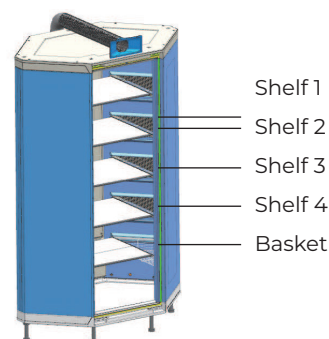

Figure 8-18
1. Take out the shelves and baskets in the package. Pay attention to the direction of the baskets and shelves, as shown in (Figure 8-18).
3. Take out slide stops (silicone cushions) for glass shelf (3-5), on both sides of the baskets and the front and back of the shelves need to be attached one of each, as shown in (Figure 8-18).